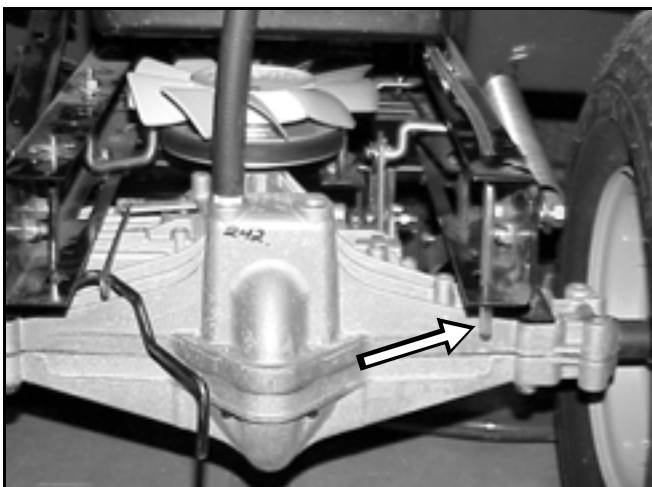

Figure 120
15. Install battery and battery tray. **Note: If the battery uses a drain tube, make sure the tube is reinstalled through the rear hole in the frame.** Reconnect the battery cables and test the tractor, making sure all safety devices are operating (Figure 120).